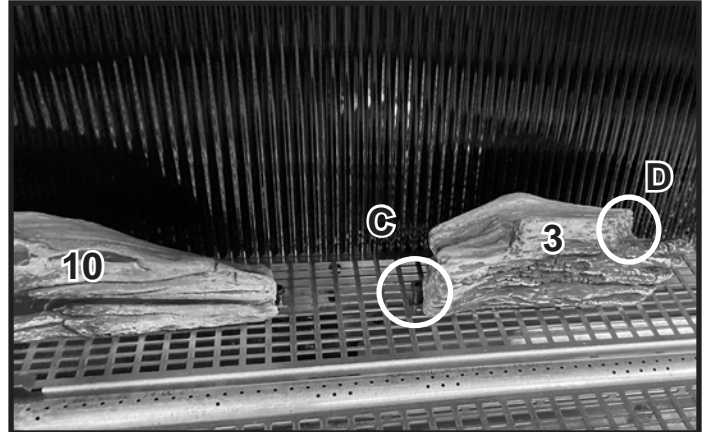

Figure 2 Install Log #3
**Log #3:** Place the left side of Log #3 against log pin (C) and pivot the right side of Log #3 back to meet log pin D. See Figure 2.